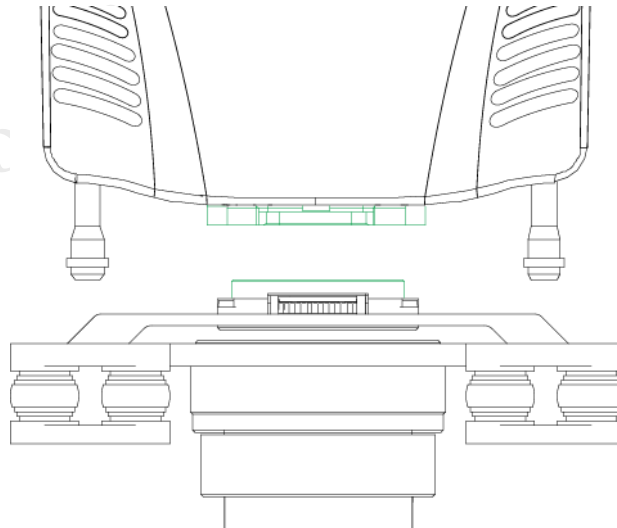

Figure 0-10
Step 1 Insert the upper port on the vibration damper plate of the PTZ camera into corresponding port at the bottom of the aircraft, as shown in Figure 0-10.